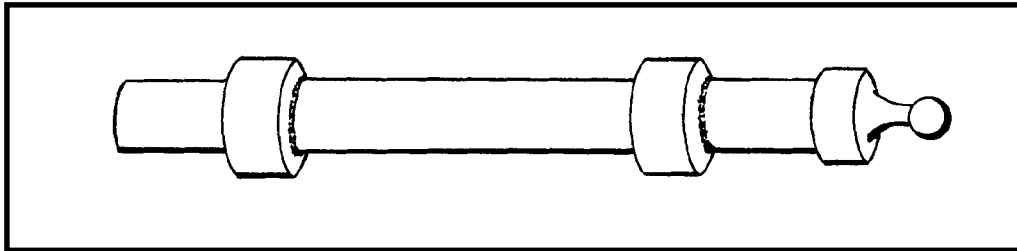
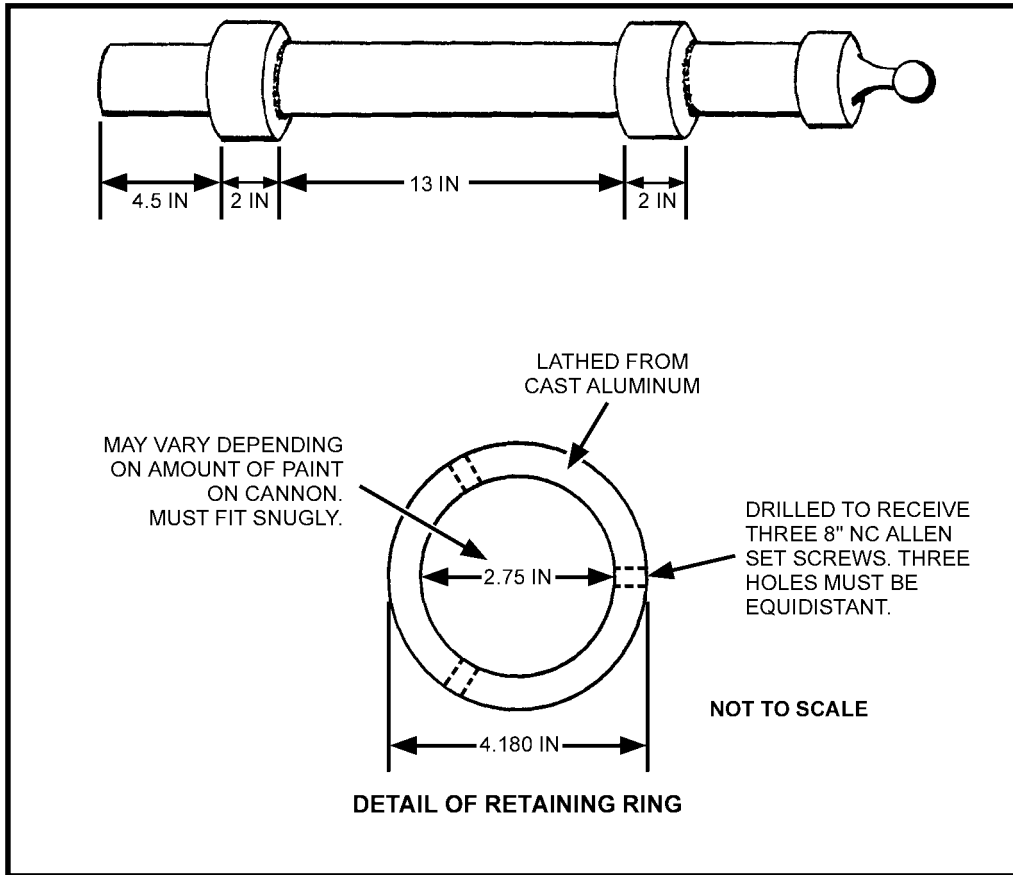

Figure A-1. The 60-mm mortar insert.
Figure A-2. Aluminum rings.
a. The insert (Figure A-1) consists of a 60-mm mortar barrel, which is fitted with two aluminum rings that allow it to fit snugly into the 4.2-inch barrel. The aluminum rings also prevent the rifling in the barrel from being scored (Figure A-2, page A-2).